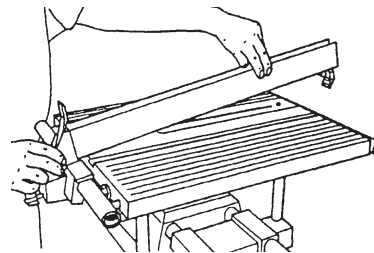

Figure 73
1. Place the Rip Fence on the Worktable by first putting the Fence Base on the front, as demonstrated in Figure 73, then lowering the rest of the Rip Fence.